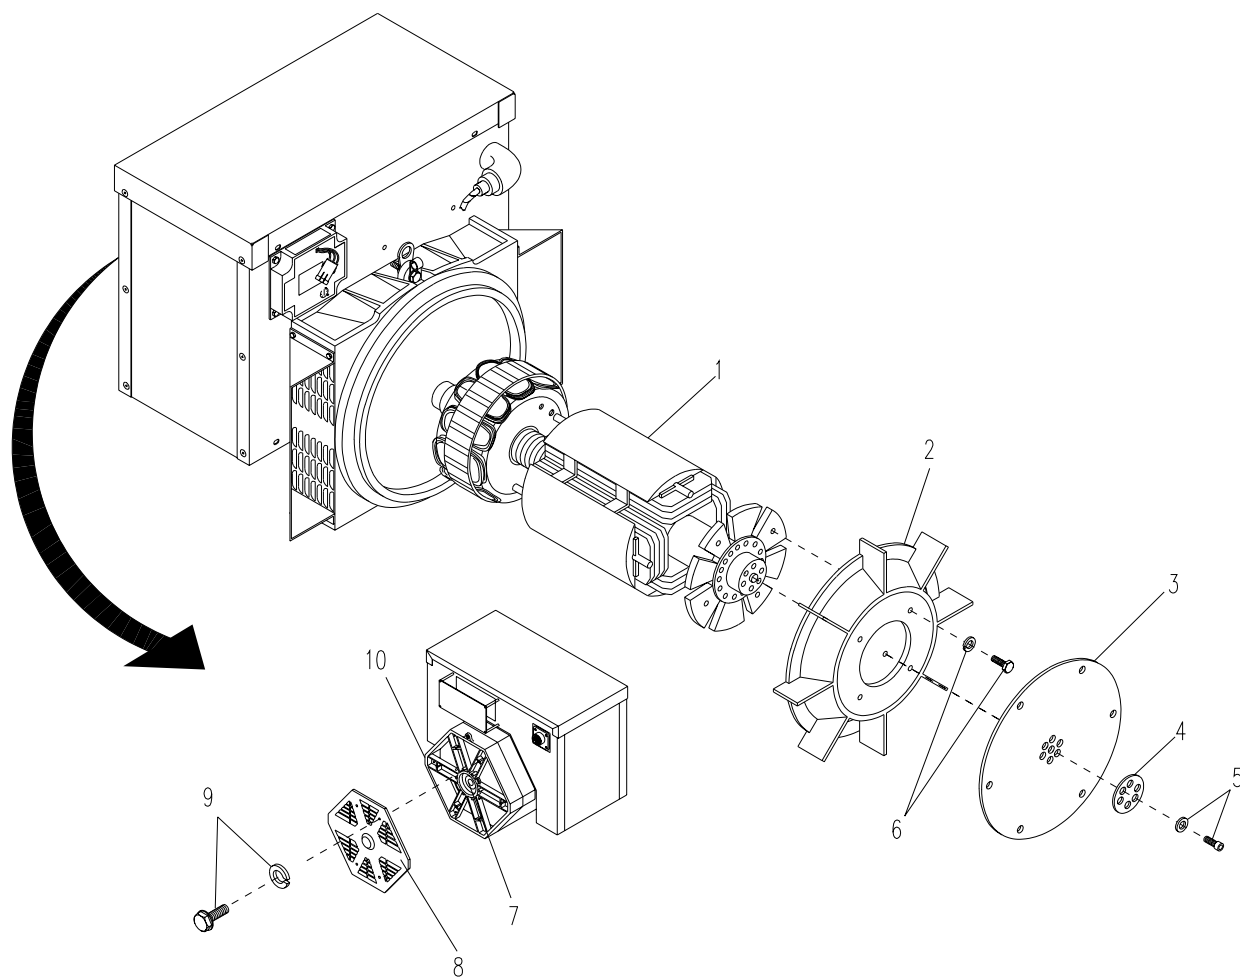

Figure 6-34. Rotor
- a. Remove four bolts and flat washers (9, Figure 6-34) securing louvered cover and removed cover (7).
- b. Remove six bolts and washers (5), pressure plate (4), and coupling hub (3) from rotor (1).
- c. Remove four bolts and lock washers (6) and remove generator fan (2).
- d. Secure lift sling to rotor (1) at drive end.
- e. At generator non drive end, tap on the rotor to loosen generator bearing (7) and rotor (1) free from bearing housing (10).